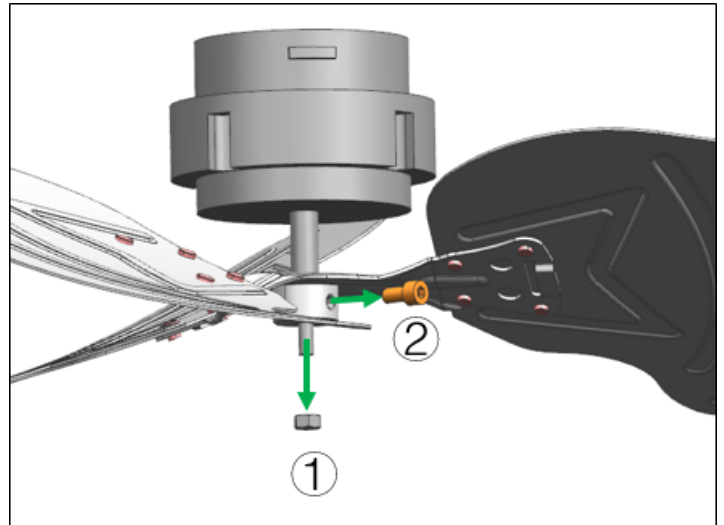

Fig.7
8. Remove the nut (1) and the screw (2) to release the fan blades from the motor shaft (Fig.7);